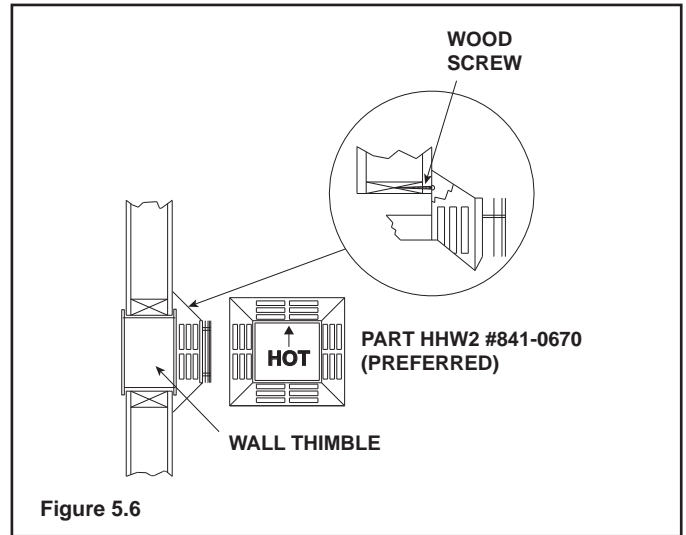

Figure 5.6
7. Position the horizontal termination cap in the center of the 10 in. x 10 in. (254 mm x 254 mm) square hole and run a bead of non-hardening mastic around its outside edges, so as to make a seal between it and the wall, attach termination cap to the exterior wall with the four wood screws provided. The arrow on the vent cap should be pointing up (**Figure 5.6**).